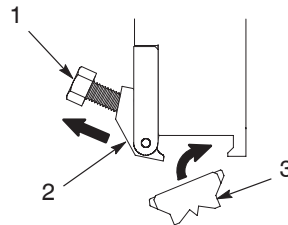

Figure 8 Removing/installing a nozzle (meltblown nozzle shown)
3. See Figure 8. Carefully insert the nozzle in the module seat and tighten the clamp screw to 1.7 N•m (15 in.-lb).